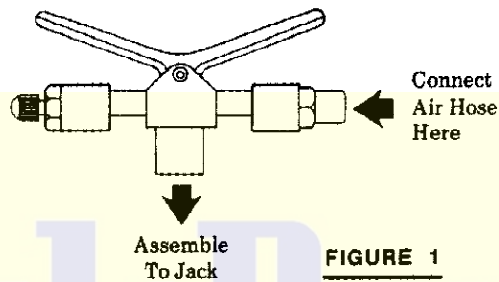

FIGURE 1
2) Will not lower.	<p>Air valve might be incorrectly assembled to jack -- Assemble as shown in Figure 1.</p> <p>The safety dog might be engaged — Admit air until the jack raises slightly, then disengage safety dog.</p>